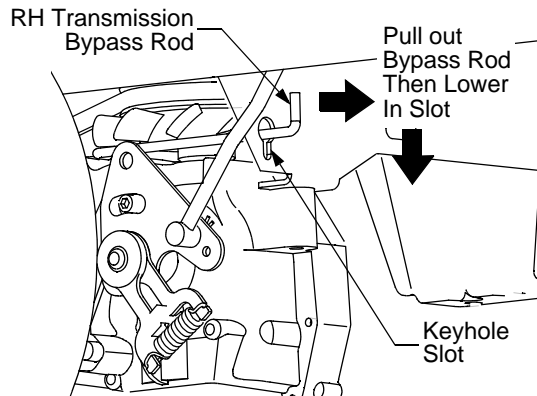

Figure 22
- From just in front of the two rear tires, locate the transmission bypass rods. See Figure 22.